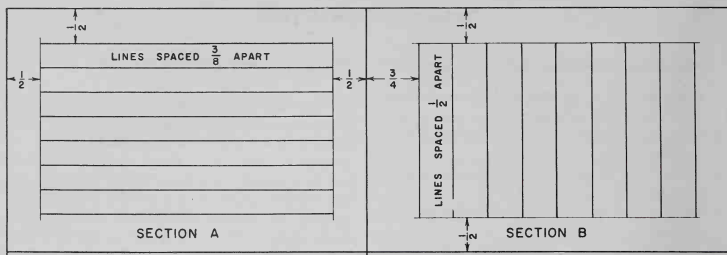

Fig. 1-27. Layout for Sections A and B, Plate No. 1.
1. Section A. Draw a series of horizontal lines as shown in Fig. 1-27.
2. Section B. Draw a series of vertical lines as shown in Fig. 1-27.